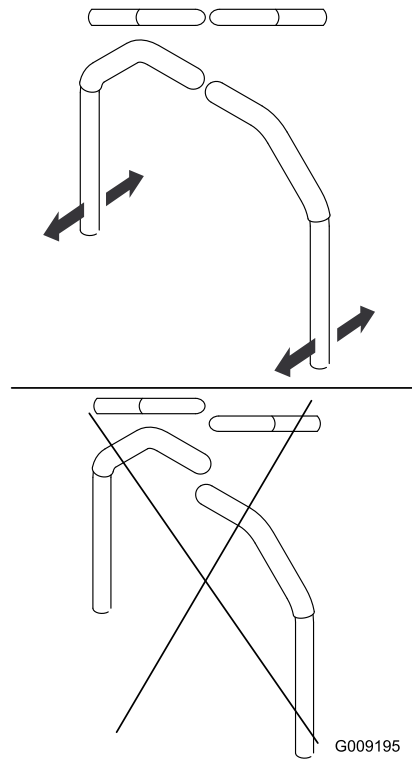

Figure 51
7. Align the levers in the front-to-rear position by bringing the levers together to the NEUTRAL position, and slide them until they are aligned, then tighten the bolts (Figure 51).